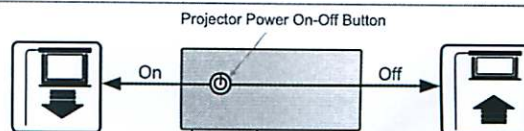

Figure 7
7. The projection screen will automatically lower when the projector is on. It will automatically retract when the projector is turned off (Figure 7).